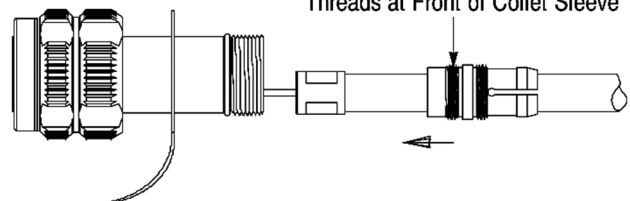

Figure 12
7. Using an applicator swab, apply a *thin film* of the O-ring grease around the O-ring of the EB insert. Refer to Figure 12, Detail A.
8. Align the face of the protective cap with the face of the EB insert, then slide the tether loop over the EB insert assembly and onto the protective tubing. See Figure 12, Detail B.
9. Mount the housing onto the keyed adapter tool or bench-mount fixture. Align the internal key (small bar inside) of the housing with the keyway (slot along the side) of the EB insert, and slide the EB insert installation tool (with the EB insert assembly) into the housing. See Figure 12, Detail C.
11. Slide the tether loop of the tether over the threads at the back of the housing and onto the body of the housing. See Figure 12, Detail D.
12. Slide the wave spring and compression sleeve over the crimp sleeve and into the housing. See Figure 12, Detail D.
13. Apply 2 to 3 drops of the threadlocker to the threads at the front of the collet sleeve. See Figure 12, Detail E.
14. Slide the collet sleeve over the crimp sleeve and into the housing. Refer to Figure 12, Detail E. Thread the collet sleeve onto the housing, BEING VERY CAREFUL NOT to pinch the end of the collet sleeve which would cause the cable to twist. Using the 13-mm open-end wrench and torque wrench or torque stand, tighten the collet sleeve to a torque between 3 and 4 N·m.